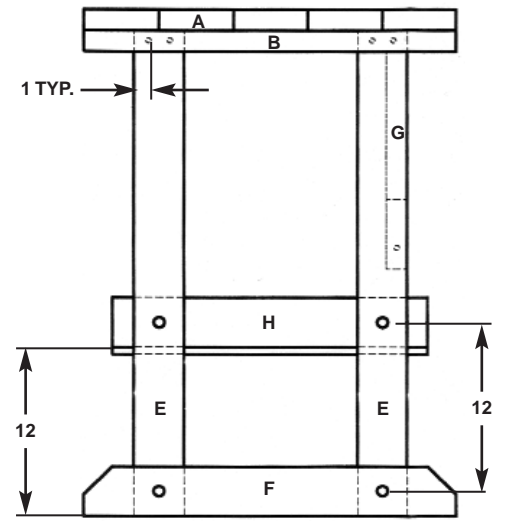

Figure 2
4. Bolt boards H to boards E (see Figure 2). Check assemblies for squareness.